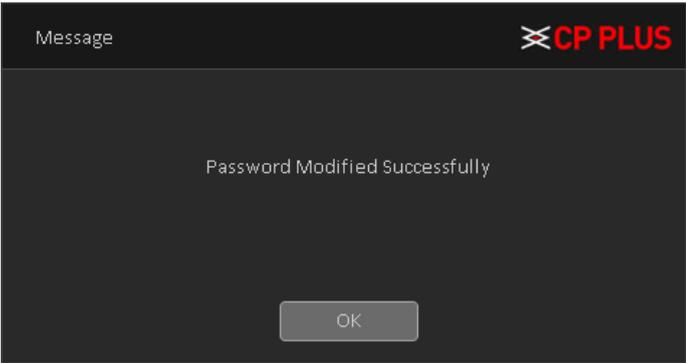

Figure 3.14
- ✓ Click OK. The password resetting is started. After resetting is completed, a pop-up message is displayed. See in Figure 3.14.